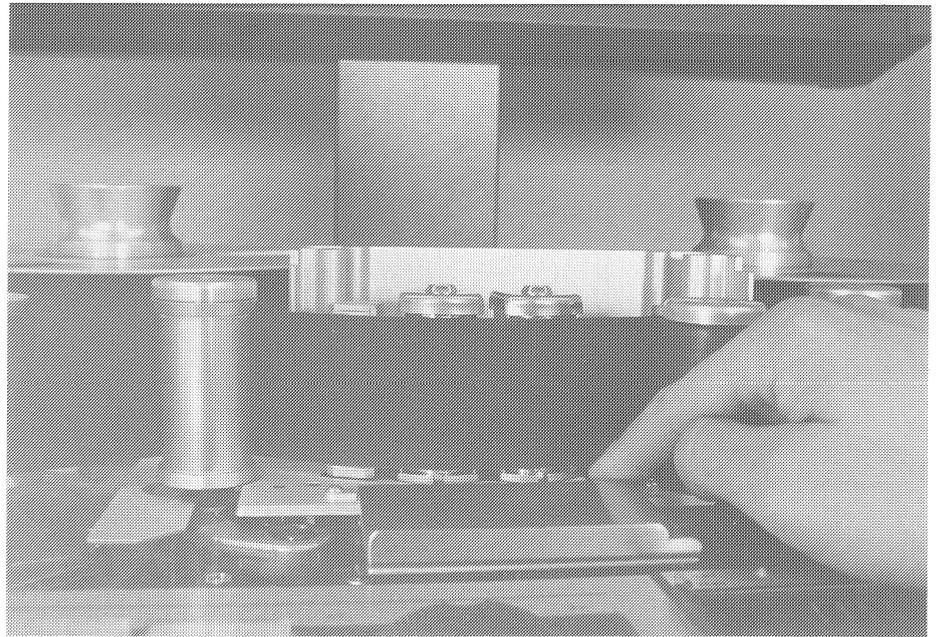

Fig. 35 Checking the centering ability of the tape from the bottom
- To the left of the capstan shaft push the edge of the running tape approx. 0.5 mm upward and downward, see Figs. 35 and 36.